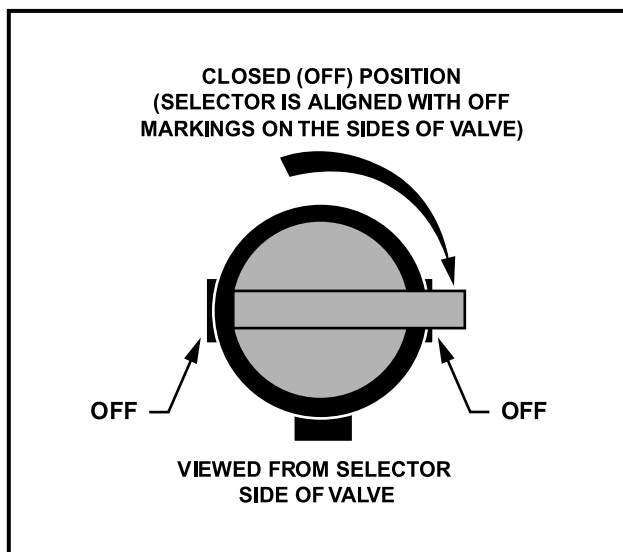

Figure 14 Fuel Shut-off Valve – Closed Position
- TURN FUEL SHUT-OFF VALVE TO CLOSED (**OFF**) POSITION (**FIGURE 14, PAGE 24**).
- 3.1. Place the Forward/Reverse handle in the NEUTRAL position and the service cam in the SERVICE position. Turn the fuel shut-off valve to the closed (OFF) position (**Figure 14, Page 24**) and run the engine until fuel remaining in the carburetor and fuel lines is used up and the engine stalls. Return the service cam to the OPERATE position.